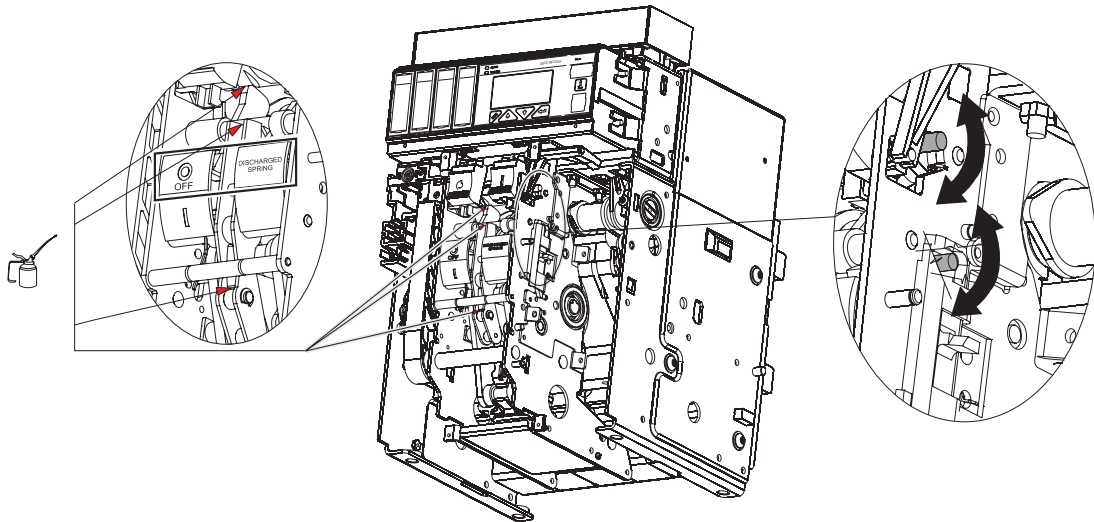

Fig. 35
- Clean at the points indicated in figure 35. For excessive deposits, a dilutant such as Henkel 273471 or the equivalent can be used.
- Lubricate, at the points indicated in fig. 35, the opening-closing shafts and hooks with MOBILGREASE 28 (EXXON MOBIL).